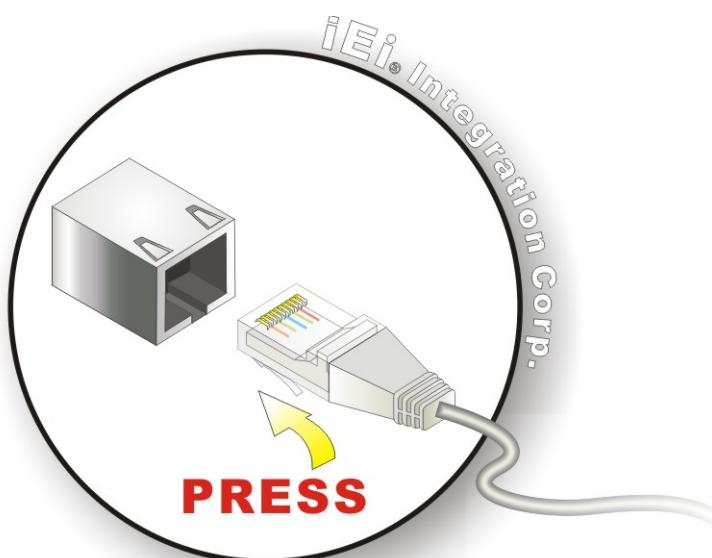

Figure 3-11: LAN Connection
Step 2: Align the connectors. Align the RJ-45 connector on the LAN cable with one of the RJ-45 connectors on the TANK-871-Q170i series. See **Figure 3-11**.